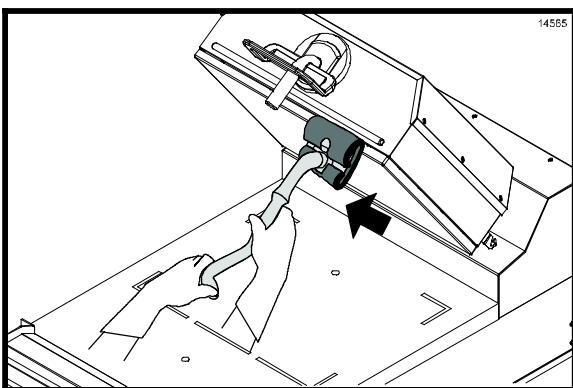

Figure 27
18. Using the Kay Grill Cleaning Pad Holder, scrub the front side of the platen. (See Figure 27.)